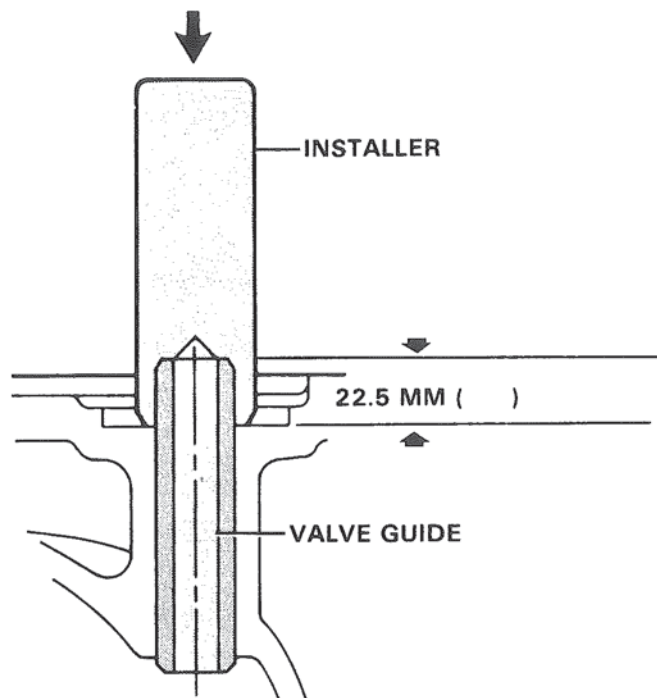

Figure 22. Installing Valve Guide.
B. Press new guide in from top (rocker arm side) using Special Tool No. MH061224. Figure 22.
When guide is installed, check height. Dimension should be 22.5 mm. Figure 22.